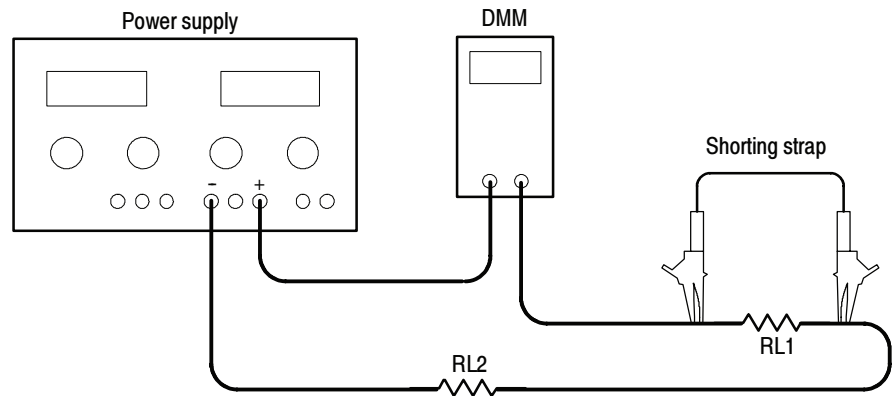

Figure 2: Constant current test setup
8. Connect the digital multimeter and load resistors to the + and - terminals of the power supply MASTER output as shown in Figure 2. See Table 7 for the appropriate load resistor values.
9. Verify that the power supply output current varies less than 0.2% \pm 3 mA while shunting load resistor RL1 with the shorting strap. See Figure 2 above.
7. Connect the digital multimeter and load resistors to the + and - terminals of the power supply SLAVE output as shown in Figure 2. See Table 7 for the appropriate load resistor values.
8. Verify that the power supply output current varies less than 0.2% \pm 3 mA while shunting load resistor RL1 with the shorting strap. See Figure 2 above.
7. Connect the digital multimeter and load resistors to the + and - terminals of the power supply MASTER output as shown in Figure 2. See Table 7 for the appropriate load resistor values.
8. Verify that the power supply output current varies less than 0.2% \pm 5 mA while shunting load resistor RL1 with the shorting strap. See Figure 2 above.